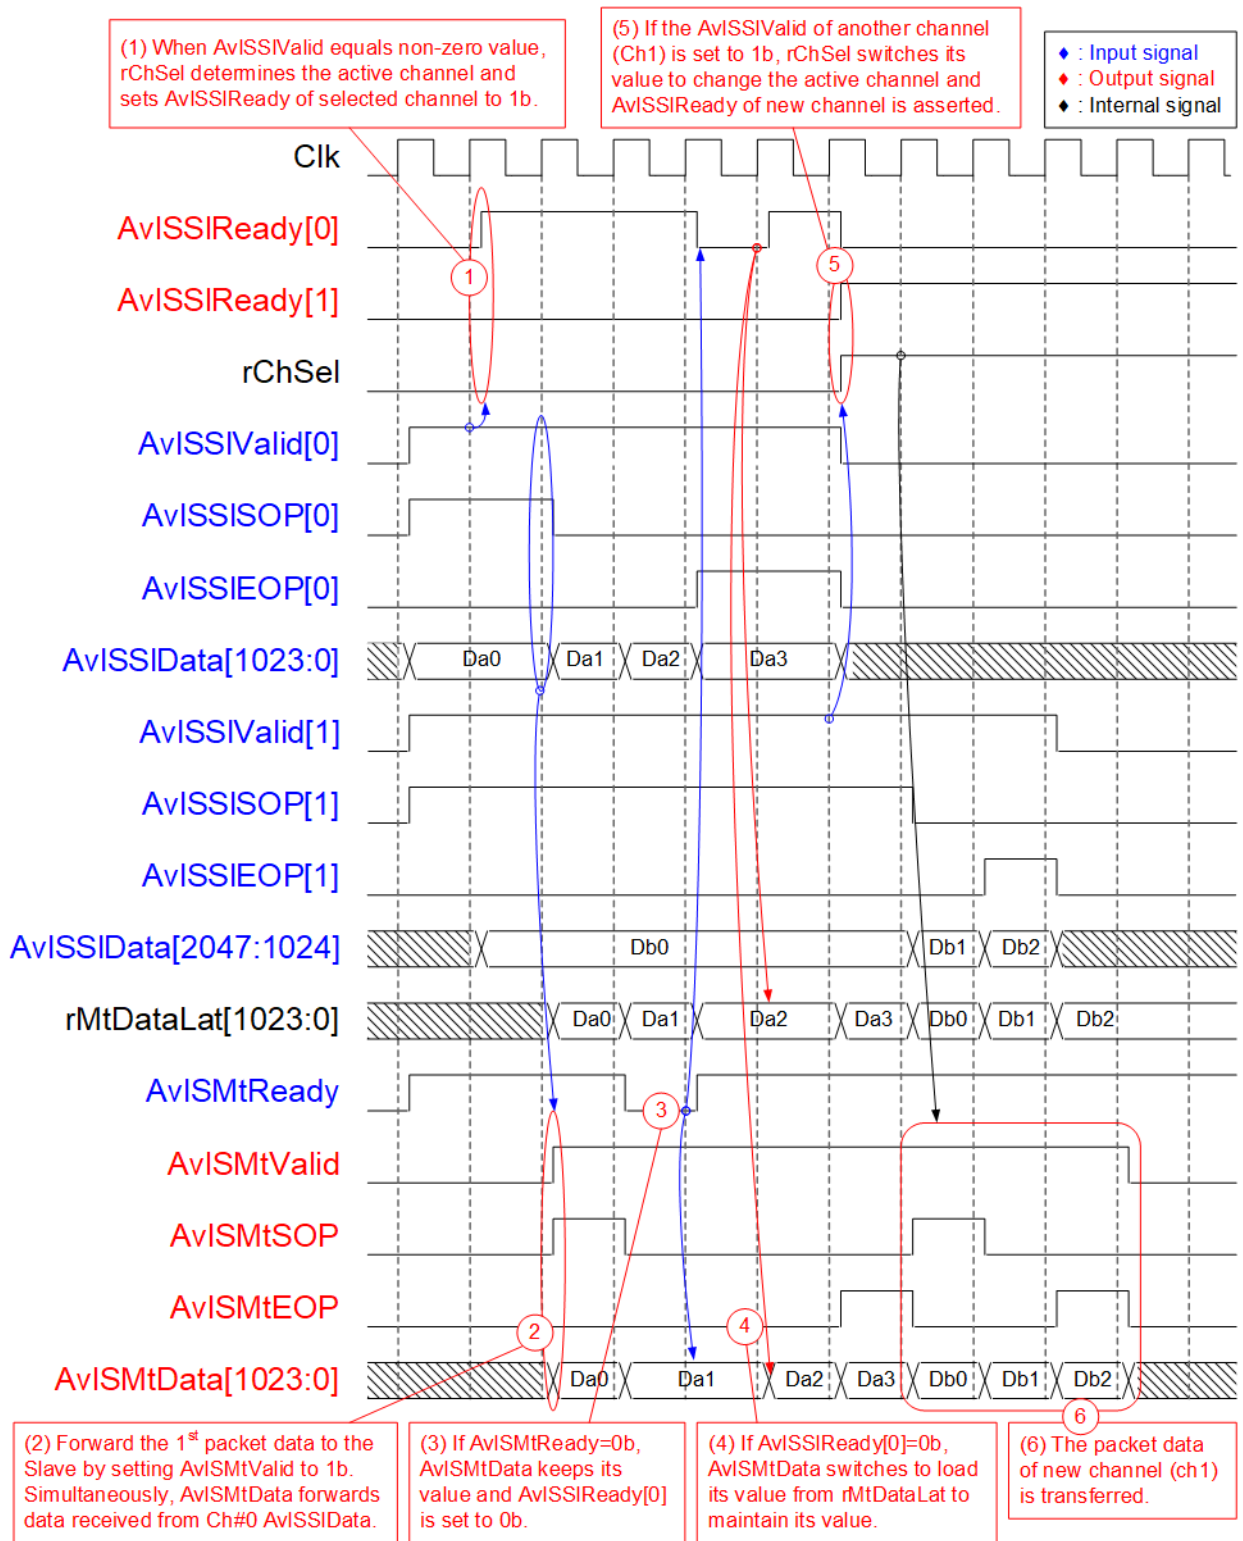

Figure 2-6 AvISSw2to1 timing diagram
The control signal 'rChSel' is employed by the AvISSw2to1 logic to select the active AvlSSI I/F, which is the interface connecting to the external Master. When two channels request data transfer while in an Idle condition, 'rChSel' changes its value to the new channel after completing the current channel's data transfer. Further details are illustrated in Figure 2-6.
- 1) When two users simultaneously initiate the transmission of a new packet by asserting AvISSIValid to 1b, and the module is currently in an Idle state, the value of rChSel (the signal indicating the active channel) remains unchanged to facilitate the forwarding of data from the same channel to the Slave. In Figure 2-6, Ch#0 is selected, prompting the assertion of AvISSIReady for the selected channel (Ch#0) to 1b, enabling the acceptance of the first data.
- 5) After the final data of a packet from the active channel is accepted, the module scans for the next active channel. If AvISSIValid for another channel is asserted, rChSel switches its value. In Figure 2-6, the next active channel becomes Ch#1 (rChSel=1b), facilitating the acceptance of data from Ch#1.